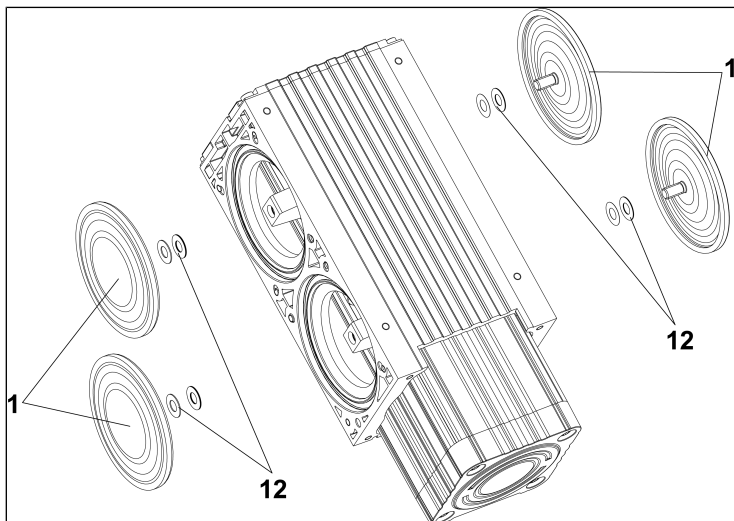

Fig. 11: Diaphragm replacement
1. Unscrew the two diaphragms (1/Fig. 11) counterclockwise by hand.
i Make sure that the shims (12/Fig. 11) located between the diaphragm and the connection rod do not fall into the pump housing. To ensure the pneumatic performance of the pump, make sure to reinstall the exact number of shims (12/Fig. 11) as removed.
2. Screw the new diaphragms (1/Fig. 11) into the thread of the connection rod by hand and tighten them finger-tight.
3. Move the diaphragms (1/Fig. 11) to the center position.